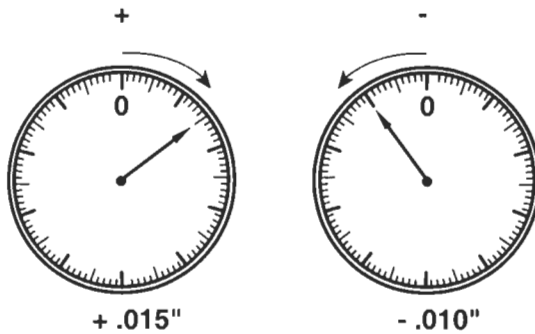

Figure 10-10
- During the alignment it is important to note the direction of the indicator movement. Beginning at 0.000 inches, a movement in a clockwise direction is a positive reading. A counterclockwise movement indicates a negative reading; see Figure 10-10.